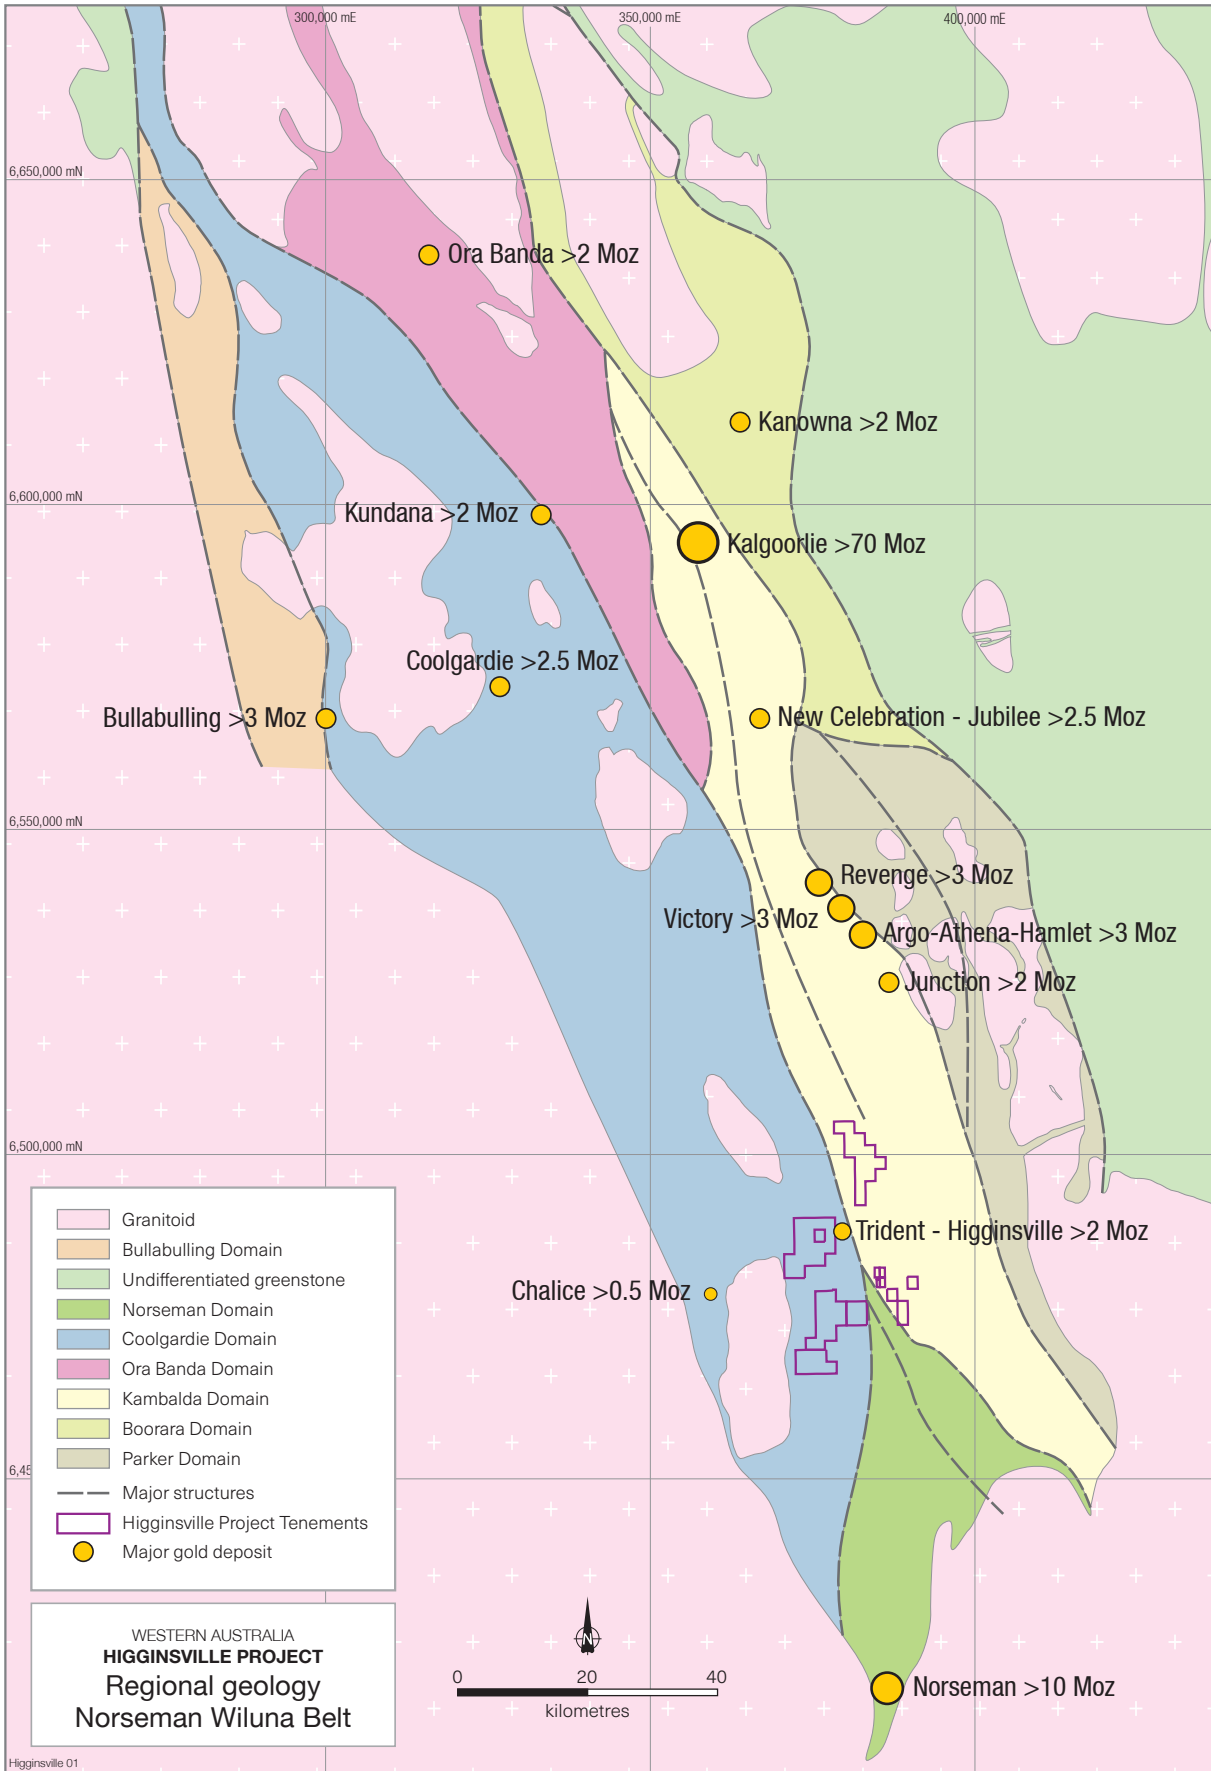

Figure 2
- 13 of these tenements are location near **Higginsville in the Eastern Gold Fields** within the Norseman-Wiluna Belt (Figure 2).
The tenements that make-up the Higginsville project are located in Western Australia's Eastern Goldfields (Figure 2). Geologically, the package sits within the Norseman-Wiluna Belt, a belt of ancient rocks endowed with gold and nickel that sits within the broader Yilgarn Craton.